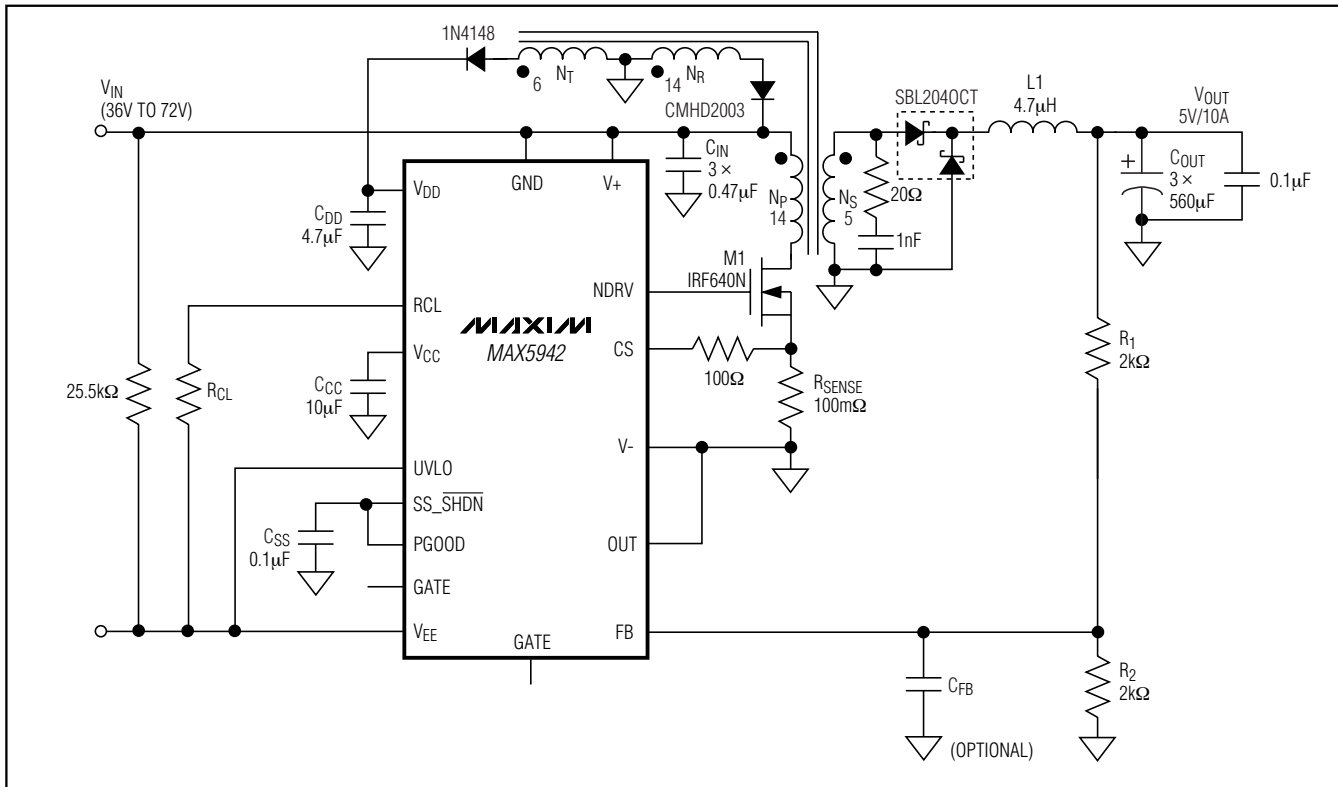

Figure 5. Forward Converter
The current-sense (CS) comparator and its associated logic limit the peak current through the MOSFET. Current is sensed at CS as a voltage across a sense resistor between the source of the MOSFET and GND. To reduce switching noise, connect CS to the external MOSFET source through a 100Ω resistor or an RC low-pass filter (Figures 5, 6). Select the current-sense resistor, R_{SENSE} according to the following equation: